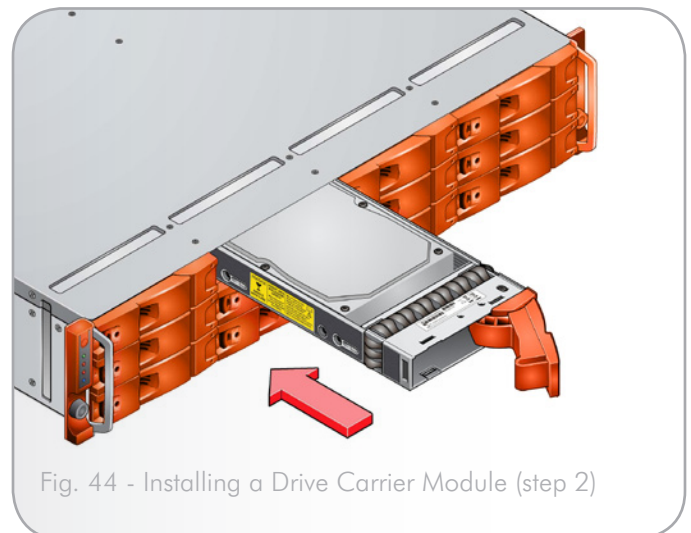

Fig. 44 - Installing a Drive Carrier Module (step 2)
3. Slide the carrier, gently, all the way into the enclosure until it is stopped by the camming lever on the right of the carrier (Fig. 44).